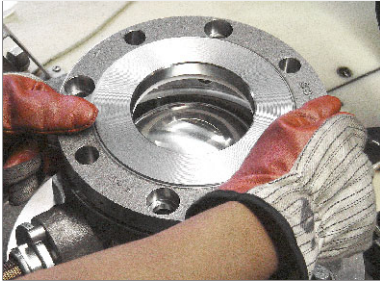

Figure 20 - Placing Cap Plate on Body
3.2.22 Place the cap plate onto the body (Fig. 20).